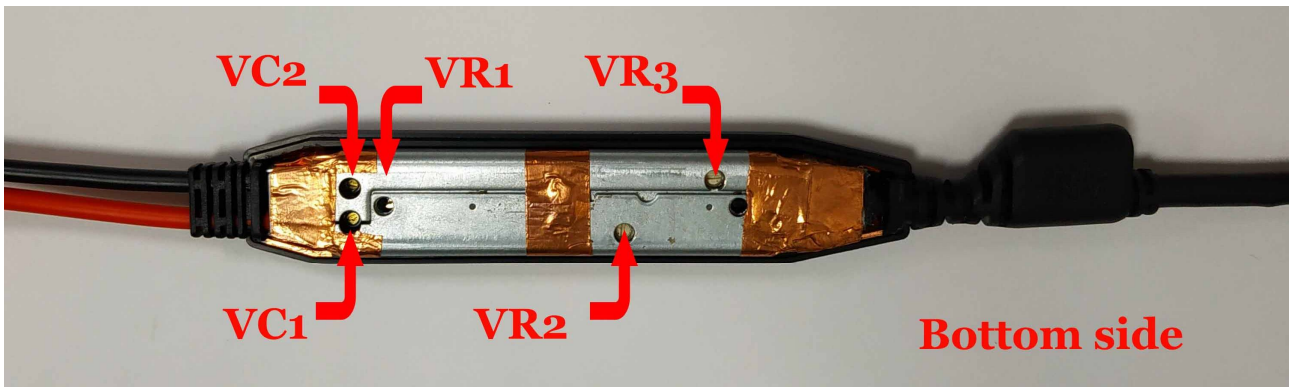

Fig. 2
- A-3. Remove the plastic cases. Figure 2 shows the location of adjustments on bottom side of the metal case.